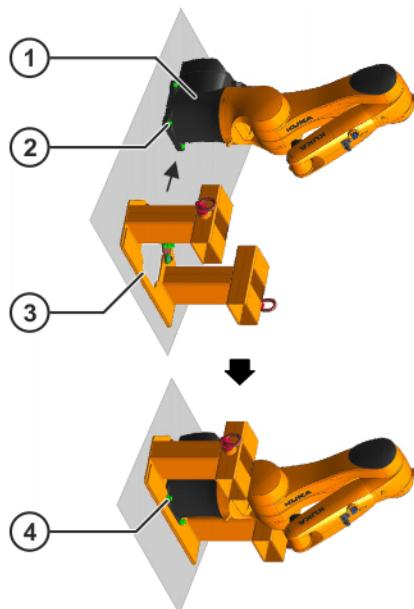

Fig. 11-4: Fastening the Load Lifting Attachment to the robot
11. Carefully push the Load Lifting Attachment onto the base frame of the robot from underneath (**>>> Fig. 11-4**).